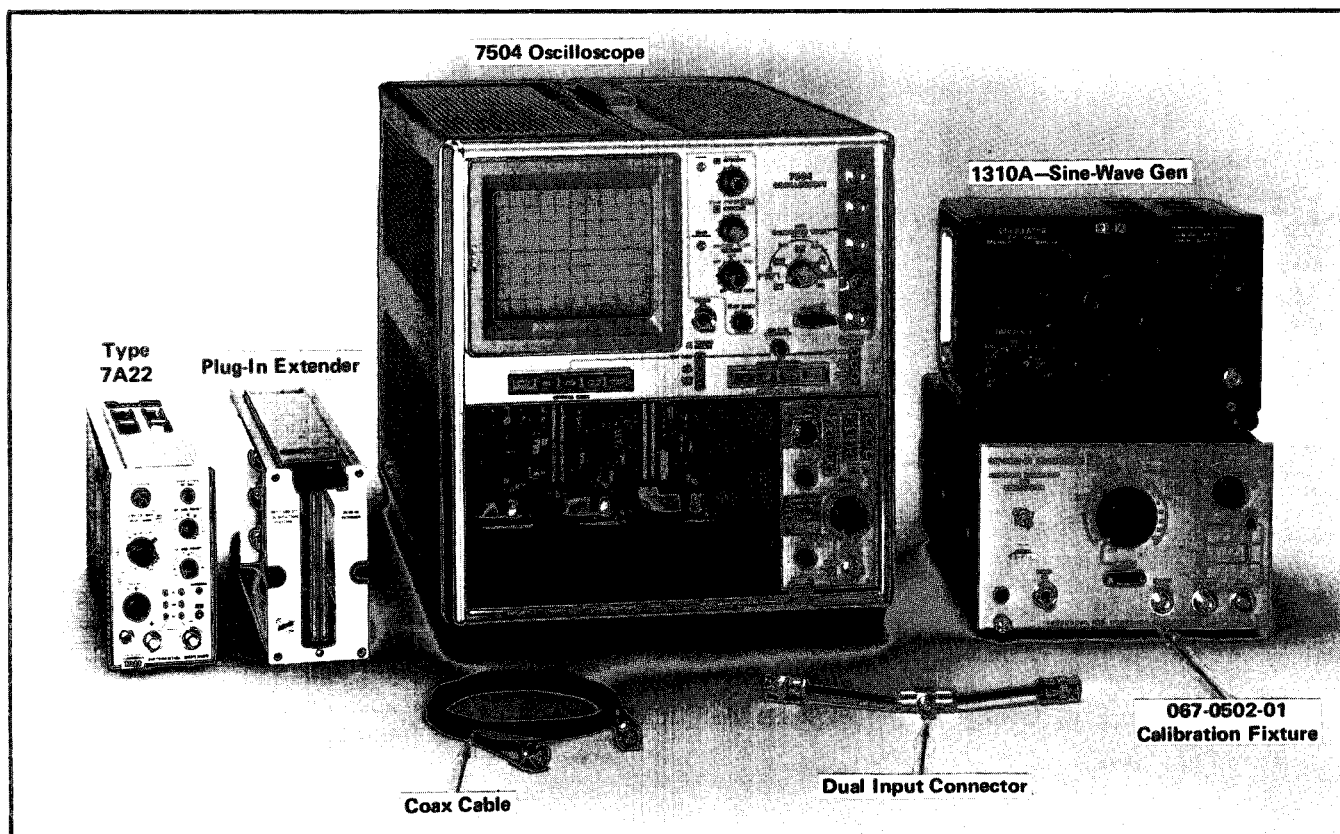

Fig. 5-7. Equipment required for steps 20 through 24.
- Test equipment setup is shown in Fig. 5-7.